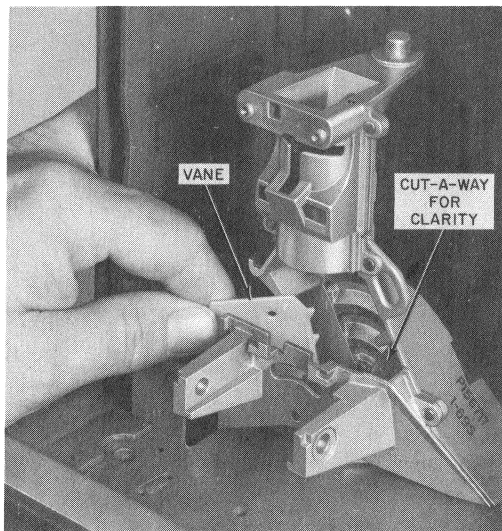
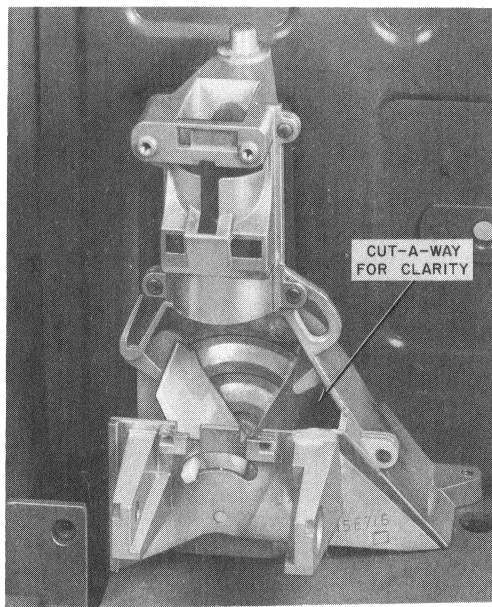
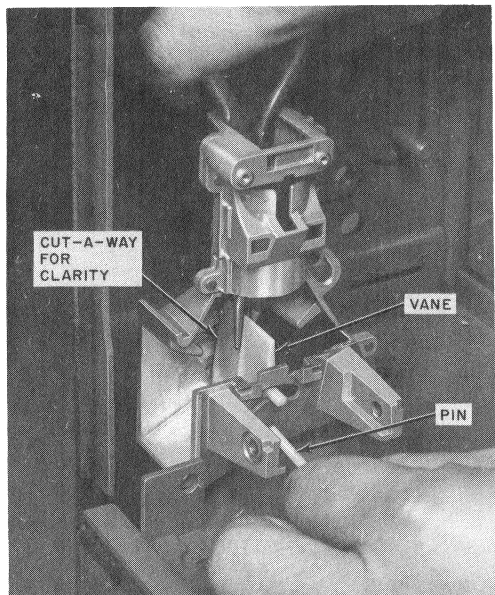

Fig. 3—Inserting Vane
Fig. 5—Vane Installed
Fig. 4—Installing Pin in Vane
(2) Position vane in hopper (Fig. 3) through left side opening and grasp with long nose pliers (Fig. 4).
(3) Insert pin (Fig. 4) through hopper housing and vane until indentations on pin snap in place in vane (Fig. 5). Ensure that vane moves freely.